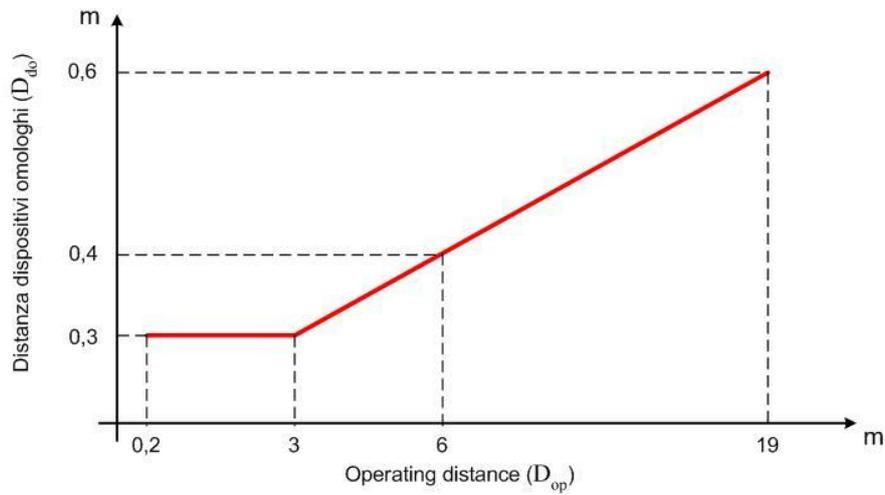

Fig. 12
- ESPE remains blocked (➡I) intercepting the beams along the protected area using the specific test piece, following the Fig.12 scheme.